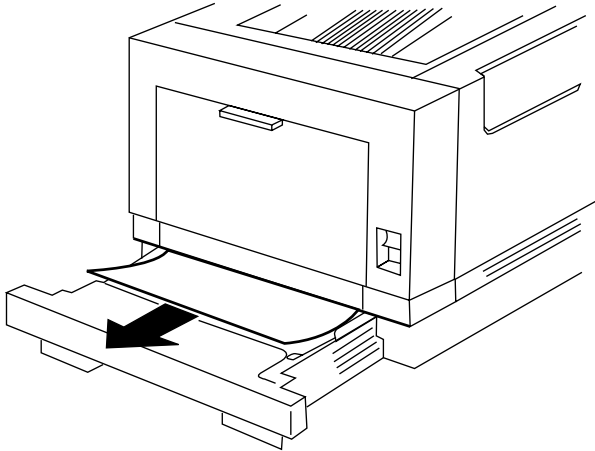

Fig. 7.4 *Remove Paper from Paper Feed Area*
4. If you are printing from the optional paper tray, pull out the tray and check the paper feed area (fig. 7.4). Remove paper by pulling straight out of the printer.